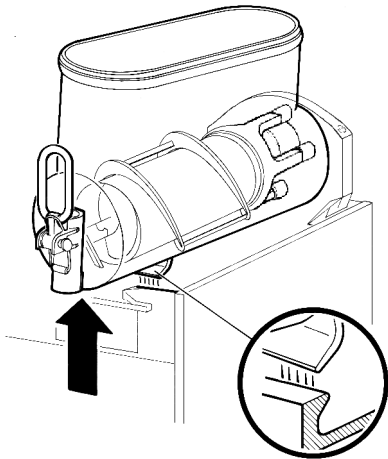

figure 6
- 2 - Remove the bowl by lifting its faucet side up and off the fastening hooks (see figure 6) and slide it out (see figure
- 8 - On 369 MODEL install the lateral tray by reversing the disassembly steps (see figure 6).